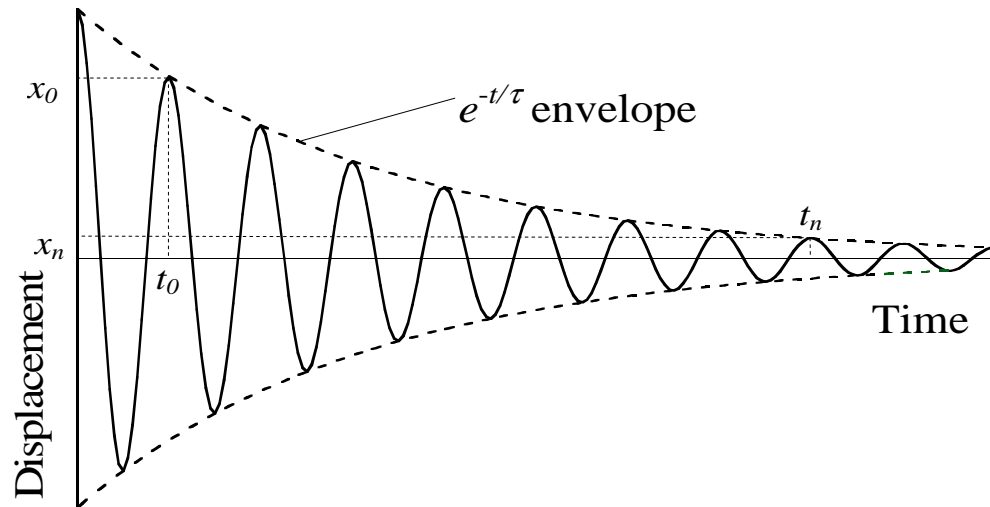

Figure 4.
An example of Equation (14), with $\delta_D = \pi/2$, is shown in Figure 4: